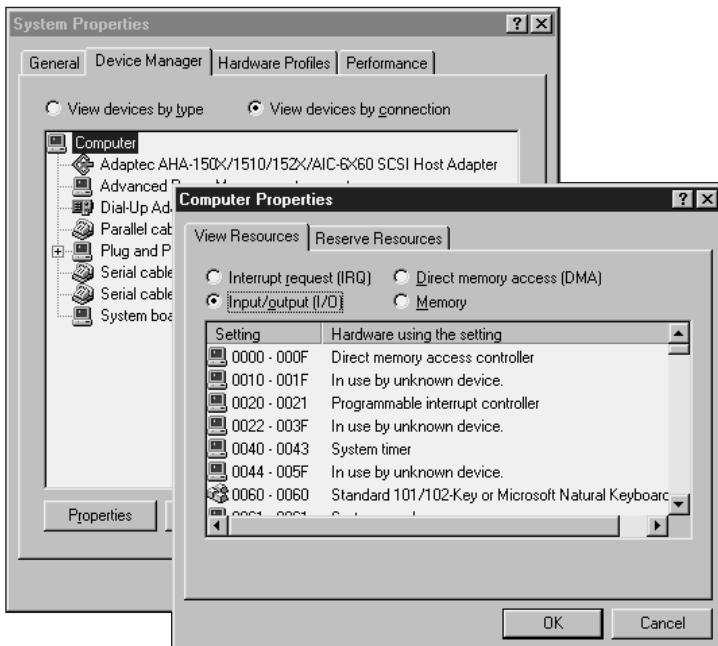

Figure 9-27 Use Device Manager to see I/O addresses currently in use
2. Select **Input/output (I/O)** to display a list of I/O addresses currently in use (see Figure 9-27). Note that the keyboard is currently assigned the I/O address of 60h.